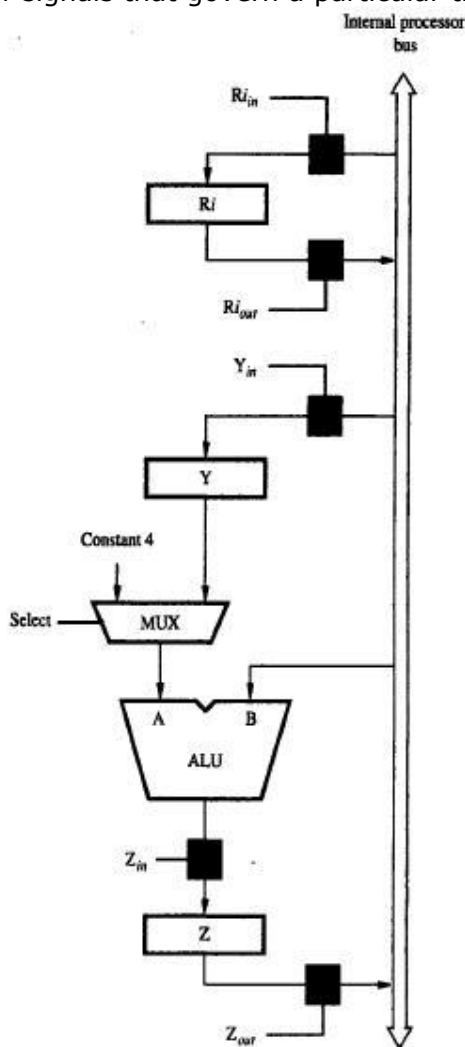

Figure 7.2 Input and output gating for the registers in Figure 7.1.
- 1) Enable the output of registers R1 by setting  $R1_{\text{out}}$  to 1 (Figure 7.2). This places the contents of R1 on processor-bus.